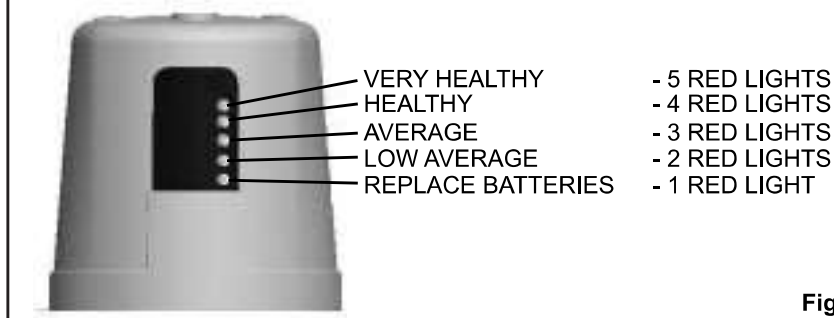

Fig. 8
3. After 10 seconds, the battery strength will be displayed via the red lights. The more lights that are present, the more life the batteries have. See Figure 8.